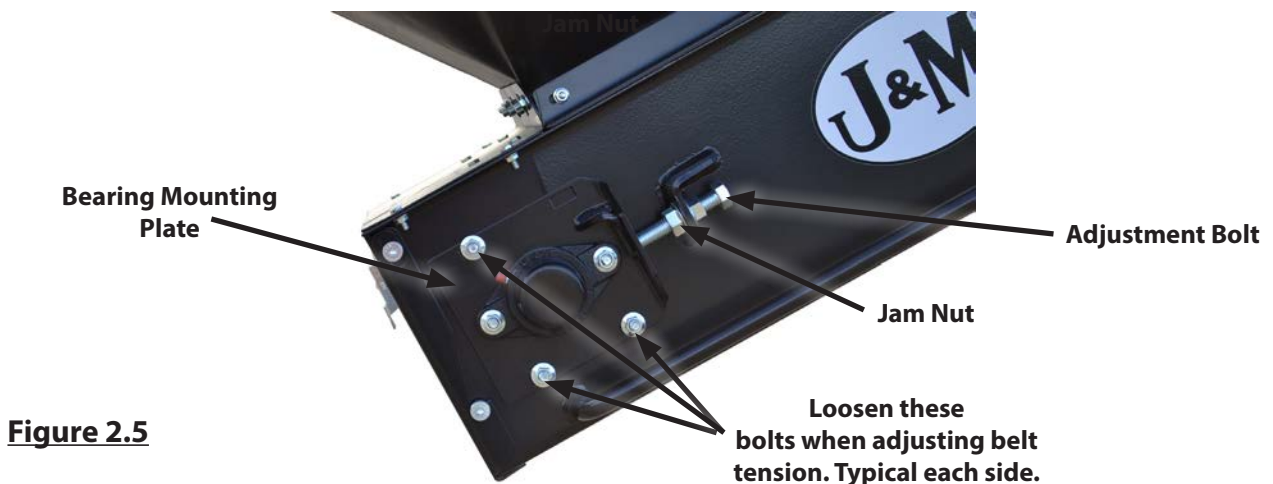

Figure 2.5
1. Loosen (Do Not Remove) the 4 bolts on the two bearing mounting plates located at the collapsible hopper end of the conveyor (Figure 2.5). **NOTE: Only adjust conveyor in normal position, do not adjust in self-fill position.**
3. Loosen jam nut on adjustment bolt (Figure 2.5).